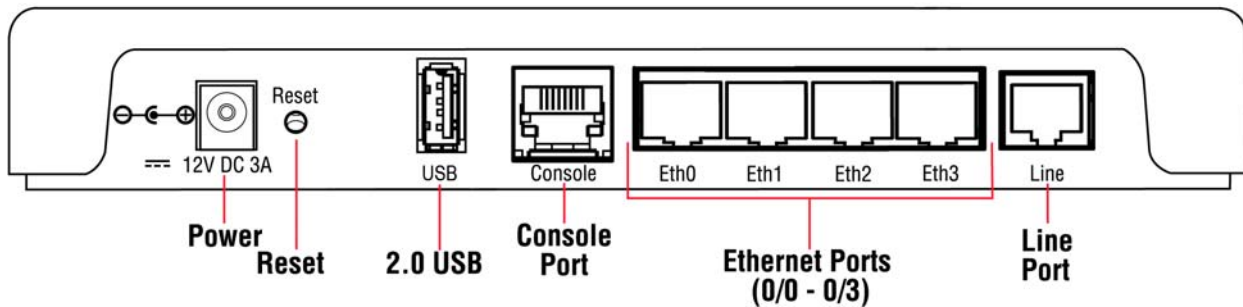

Figure 4 LB52XA-R2 rear panel options
**Note** See figure 4 for the rear panel arrangements